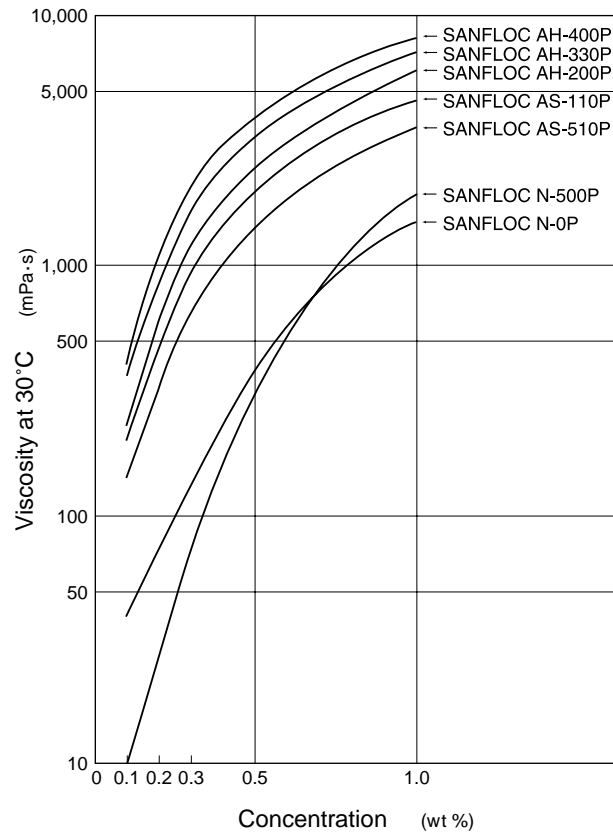

Figure 1. Concentration-Viscosity Curve of Anionic and Nonionic SANFLOC Products
*1 Concentration-viscosity curves of several SANFLOC products are shown in Figures 1 and 2 on the next page.